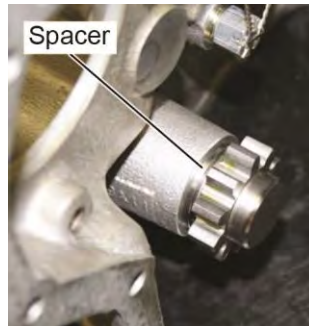

**Figure A-8
1. Lubricate the shaft of the hydraulic pump driven gear (Figure A-8) with engine oil mixture.
4. Apply a light coat of Loctite[®] 222 or equivalent to the hydraulic pump oil seal bore in the hydraulic pump adapter assembly (Figure A-8).